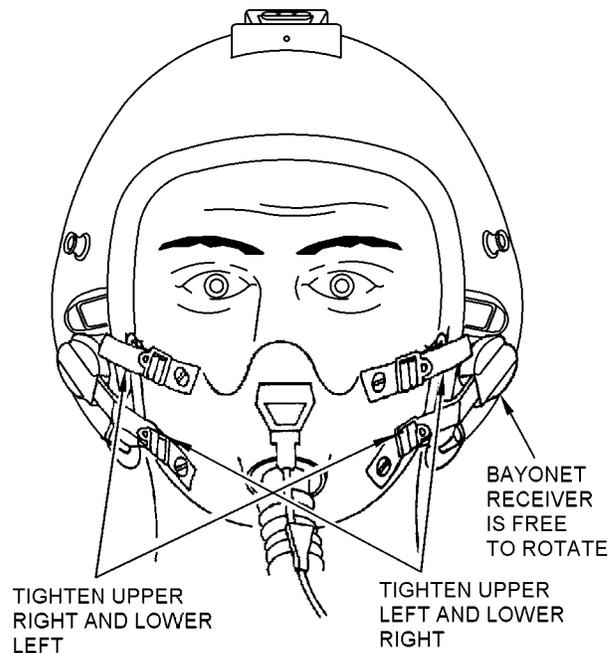

Figure 16. Bayonet Positioning
k. Readjust the straps on the mask tightening upper left and lower right straps together, then upper right and lower left straps together, keeping mask centered on face and equalizing tension on straps. While tightening straps, allow bayonet receivers to rotate freely to their best location for the individual. Refer to figure 16.
(1) Make sure correct mask size has been issued.
(2) Inspect fit of nape strap.